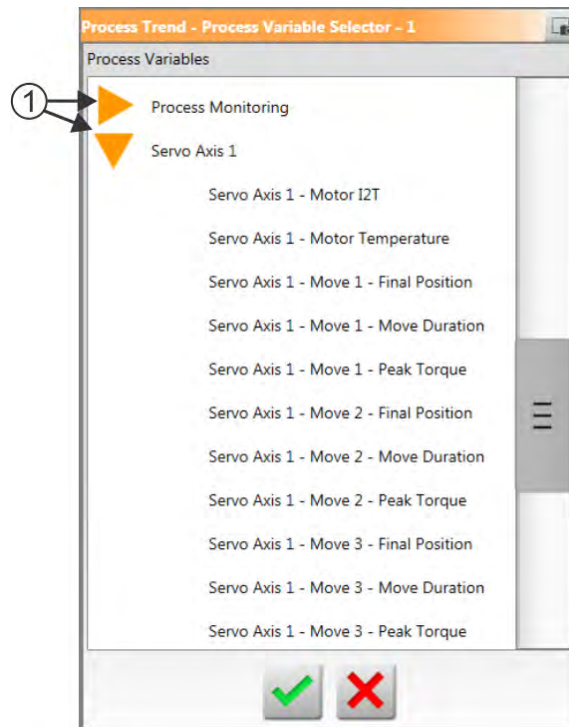

Figure 11-2 Process Trend - Process Variable Selector Dialog Box
2. On the Process Trend - Process Variable Selector dialog box, touch a minimize/maximize arrow. Refer to Figure 11-2.